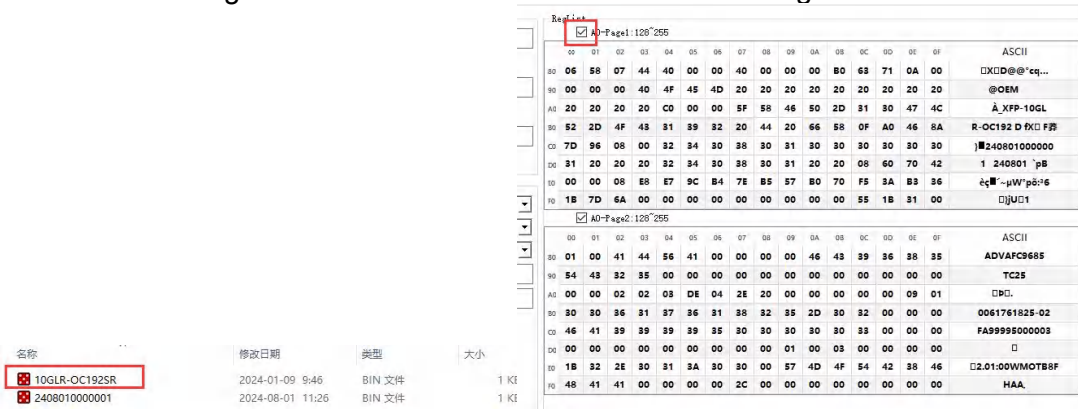

Figure 32
3.1.4 Click “Export BinFile” to import the Table02 bin (Figure 32)